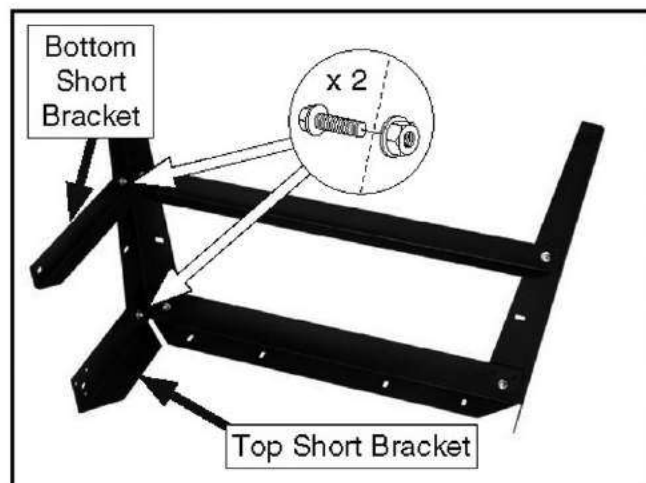

Figure 6. Top and bottom short brackets secured to stand leg assembly.
5. Mount top and bottom short brackets to stand leg assembly with (2) M8-1.25 x 15 carriage bolts and (2) M8-1.25 flange nuts, as shown in **Figure 6**.